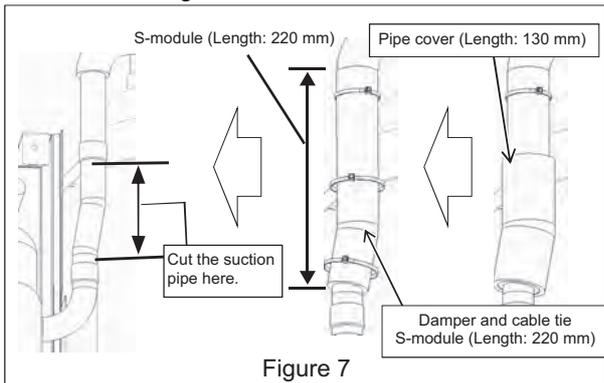

Figure 7
- (7) Remove the pipe cover and the damper, and cut the suction pipe where indicated in Figure 7.
*When re-placing the pipe cover and the damper, use the ones with the sizes shown in Figure 7, which are supplied with the replacement compressor.